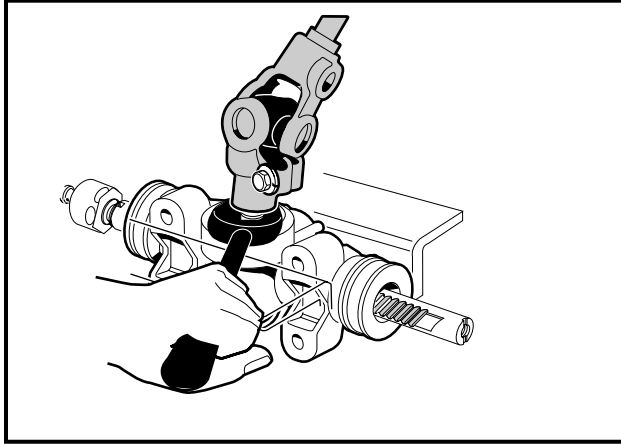
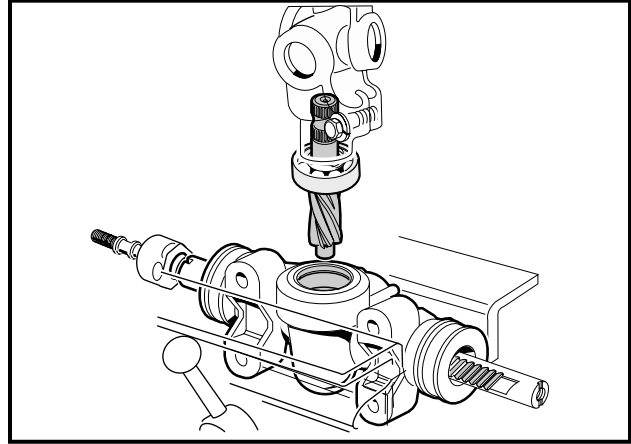

Figure 7-16 Remove Pinion
Figure 7-17 Remove Pinion Gear Assembly
9. Install the universal joint onto the pinion and place a fork or a large open end wrench under the universal joint (**Figure 7-16, Page 7-11**). Gently pry the pinion from the housing (**Figure 7-17, Page 7-11**).